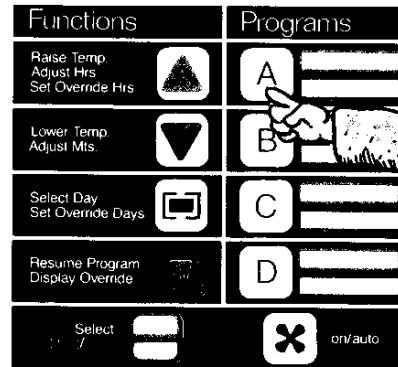

Figure 7. Heat set point
(1) Press and release . You will observe a display as in figure 7. This is the heat temperature.
(2) Press  to raise or  to lower to the desired temperature.